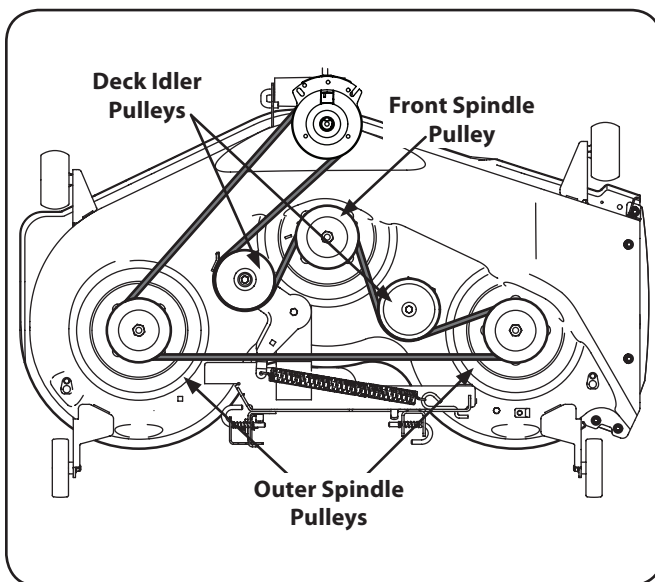

Figure 7-11
8. **On 50" Decks:** Install the new belt by routing it around the two outer spindle pulleys, then around the front spindle pulley as shown in Figure 7-11.
9. Then route the belt around the two deck idler pulleys as shown in Figure 7-11.